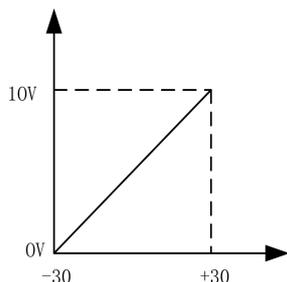

Fig. 4-24 Proportional diagram: preset voltage correction over synergic value under synergic mode V.S. value from robot to welding machine
3. Under synergic mode, the proportional diagram of voltage correction over synergic value is shown in Fig. 4-24.